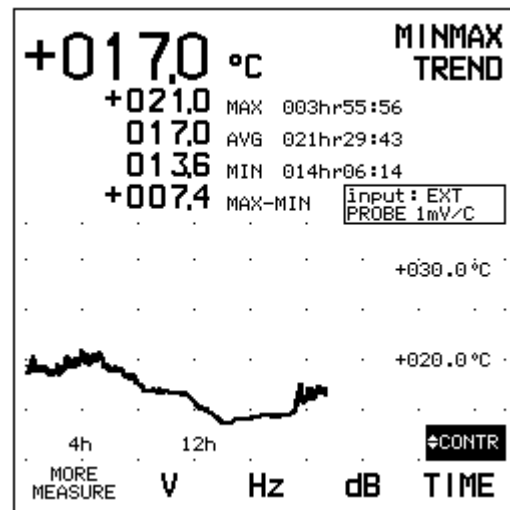

Figure 7-2. Temperature Measurement with Trend Plot
⑤ Move the slide switch on the probe to the °C position.
⑥ The actual air temperature appears on the display.
⑦  The test tool starts continuously recording the air temperature and graphs the minimum, maximum, and average temperatures on the display. After about 24 hours the display appears as shown in Figure 7-2.